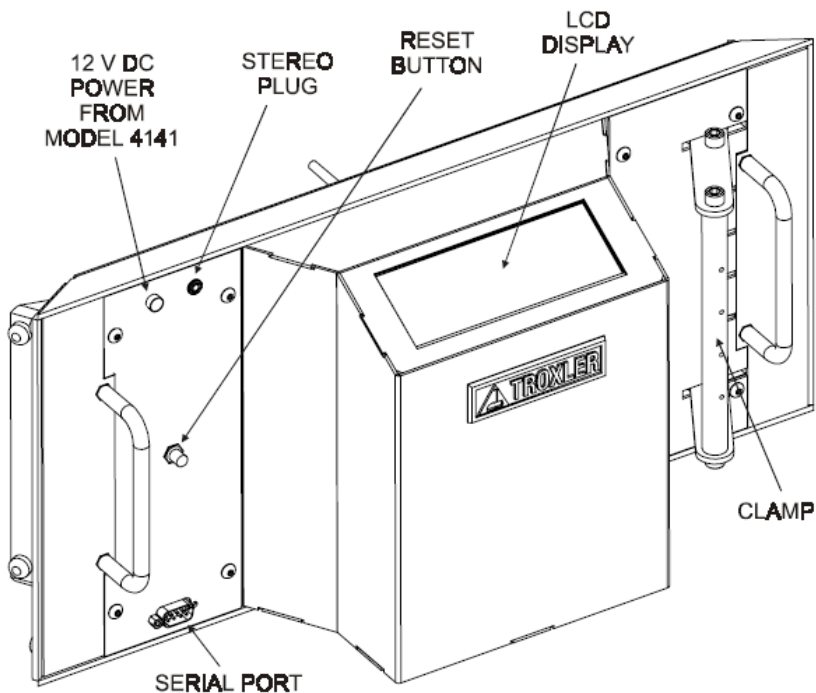
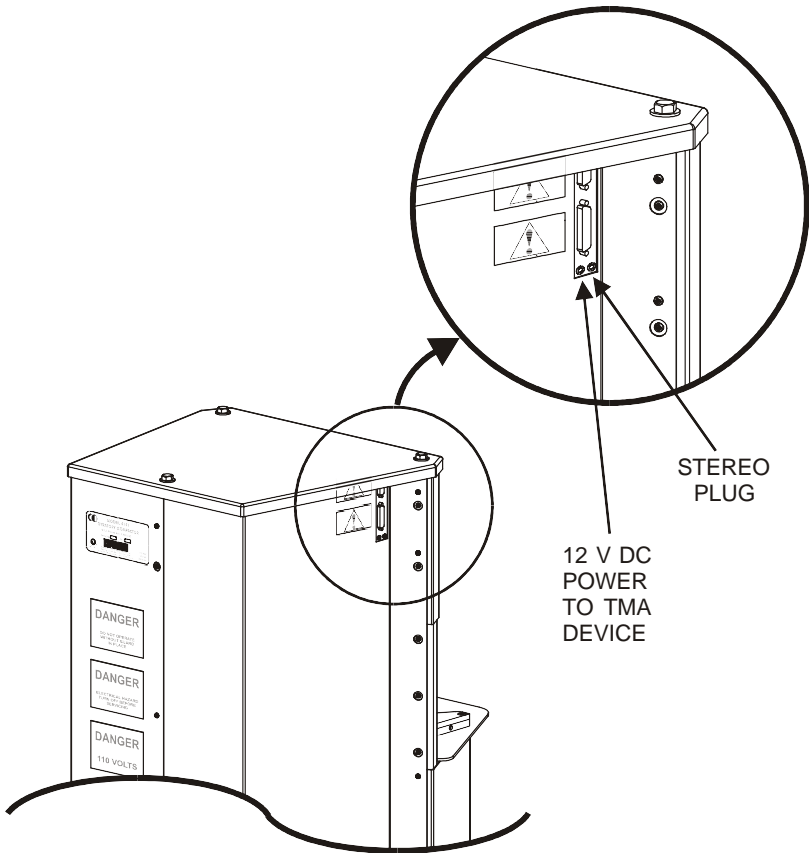

Figure 1. Model 3191 True Mold Angle Device
Figure 2. TMA Connections on the Model 4141
Figure 1 shows the TMA and its components. Use the figure to locate and identify the parts described in the following paragraphs.
5. Connect the 12 V dc and stereo cables from the TMA (see Figure 1) to the appropriate connectors on the Model 4141 as shown in Figure 2.